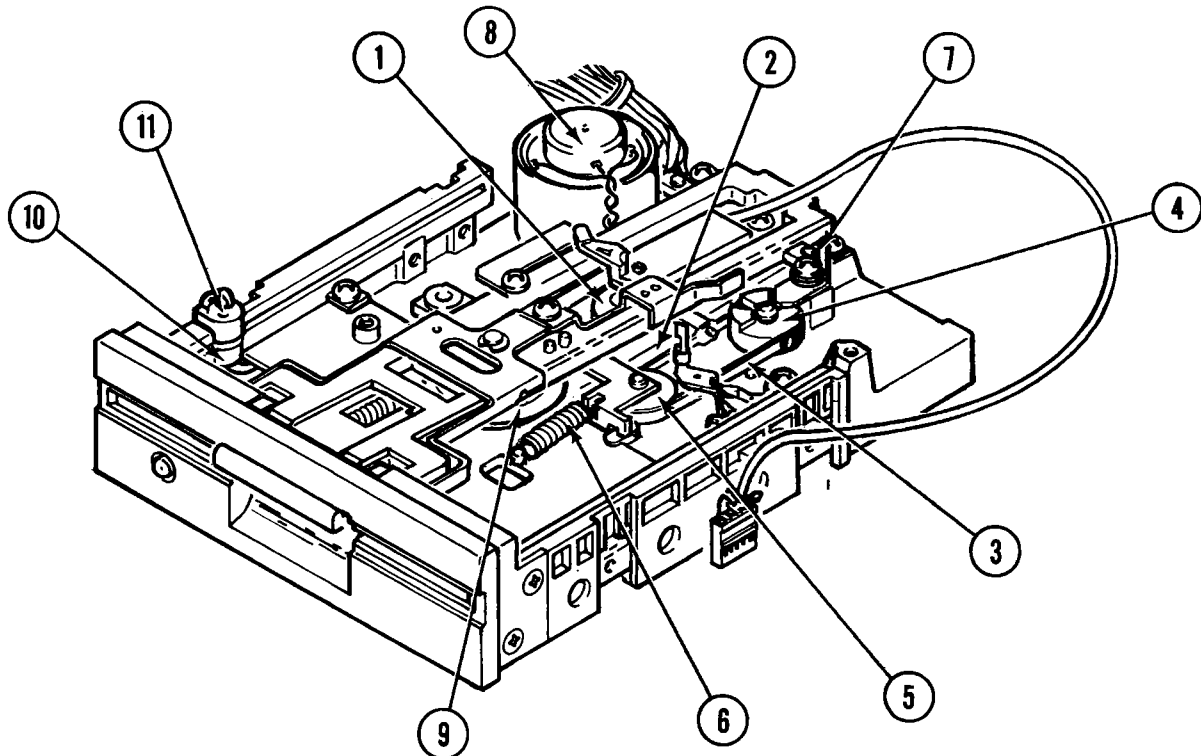

Figure 2-3. Drive Unit, Track Selection and Write Protect.
2.2.2. Track Selection (Refer to Figure 2-3)
The mechanical drive system rotates the drive hub and thus the disk itself. The drive motor/tachometer (Figure 2-3, Item 8) contains a motor and a tachometer on a common shaft. The tachometer is used to generate speed information for feedback purposes. The drive motor shaft is connected to the drive pulley (Item 2), which turns the flywheel (Item 3) via the drive belt (Item 4). The flywheel smooths out the motion of the drive hub (Figure 2-3, Item 9). The flywheel also contains a timing disk for the purpose of disk speed calibration.
2-2-4. **Write Protect System** (Refer to Figure 2-3)